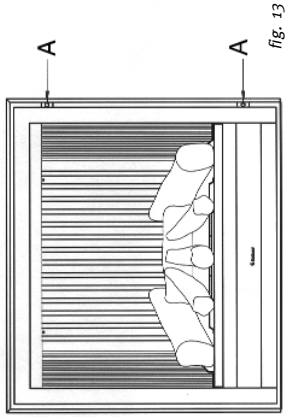

fig. 13
1. To open the door, remove the screws A (see fig. 13). Open and remove the door; lift and pull forward. Be sure that there are no fingerprints on the glass. It is not possible to remove those prints after you burn the appliance for a while (they are burnt in).